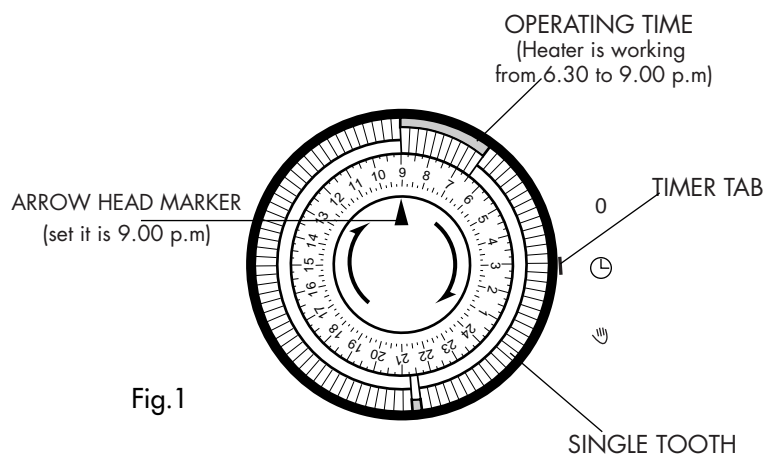

Fig.1
Check that the timer tab (fig.1) on the outside rim of the timer is lined up with the manual "  " symbol.
- Align the timer tab (fig.1) to the "☉" timed operation symbol.
If you wish to override the timer settings, move the timer tab up to the "☾" manual (timer override) position (Fig.1).